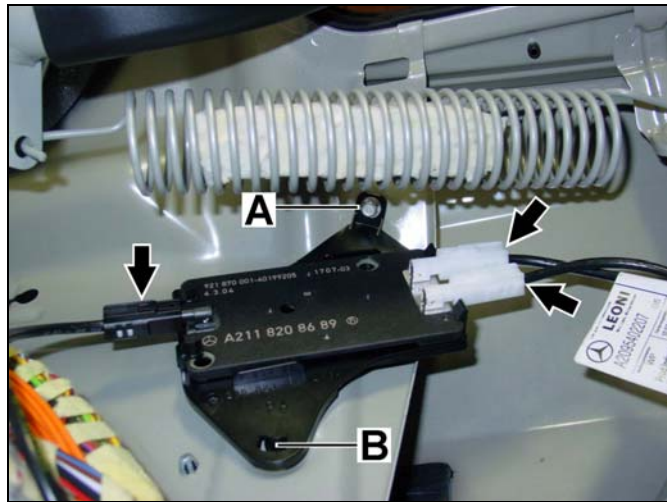

Figure 1
6. Remove the antenna splitter/bracket assembly from the upper area of the exposed right side quarter panel interior by removing the 8-mm hex head, self-tapping screw (A, Figure 1), unhooking the support clip (B, Figure 1), and disconnecting the connectors (Arrows, Figure 1).